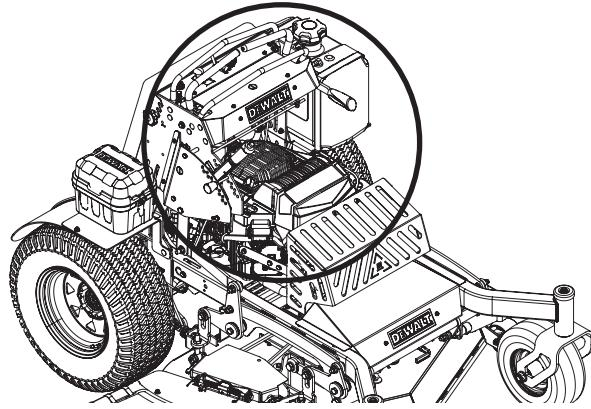

Figure 16
- Clean around the exhaust manifold, fuses, all wiring and harnesses, muffler pipe, muffler shield, engine intake screens and cooling fins, etc. See Figure 16.